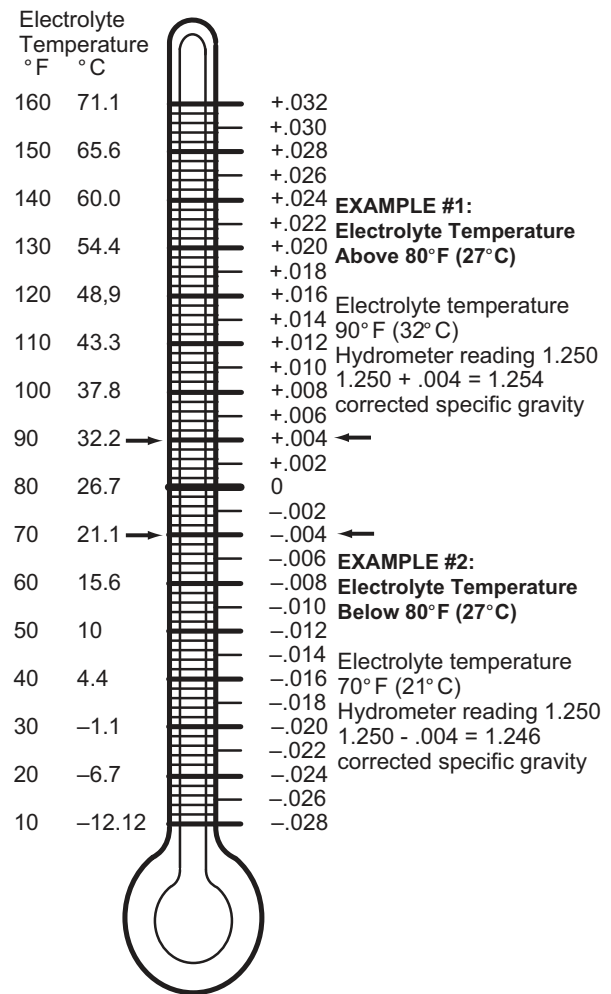

Fig. 10 Hydrometer Temperature Correction
5. Add or subtract four points (.004) to the reading for every 10° F (6° C) the electrolyte temperature is above or below 80° F (27° C). Adjust the reading to conform with the electrolyte temperature, e.g., if the reading indicates a specific gravity of 1.250 and the electrolyte temperature is 90° F (32° C), add four points (.004) to the 1.250 which gives a corrected reading of 1.254. Similarly if the temperature was 70° F (21° C), subtract four points (.004) from the 1.250 to give a corrected reading of 1.246 (Ref Fig. 10).